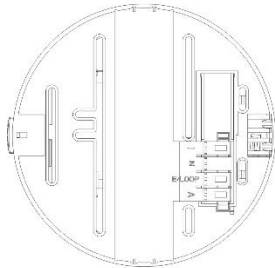

Fig. 4 – Mains wiring terminals and mounting slots
3. Slide open the terminal cover to access the terminal screws and install the wiring as shown in Fig. 4.